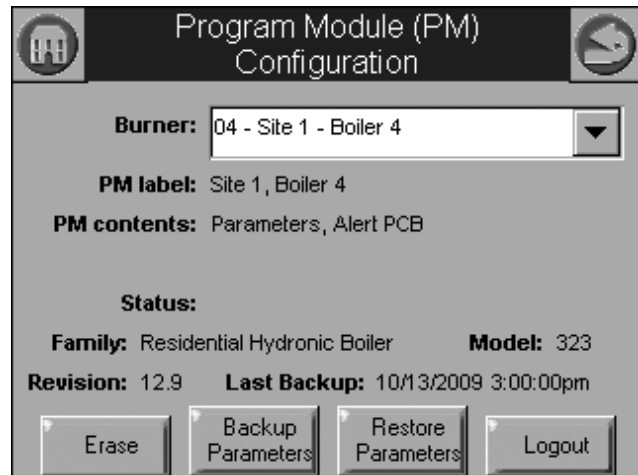

Fig. 3. S7999 Program Module Configuration page.
7. Select the burner that contains the Program Module you will be working with, as shown in Fig. 3.